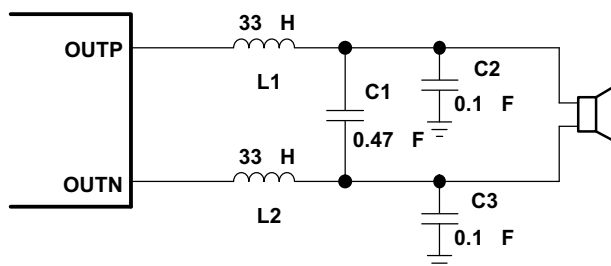
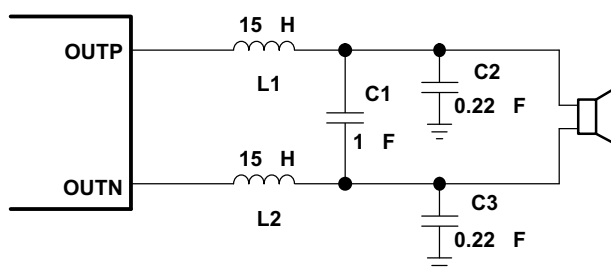
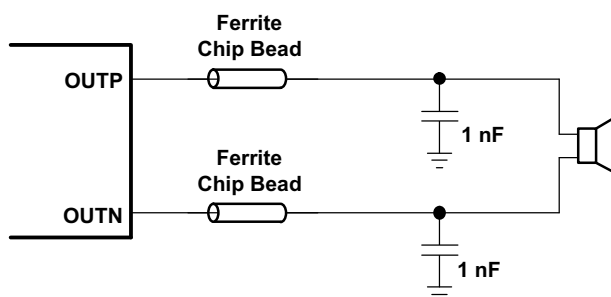
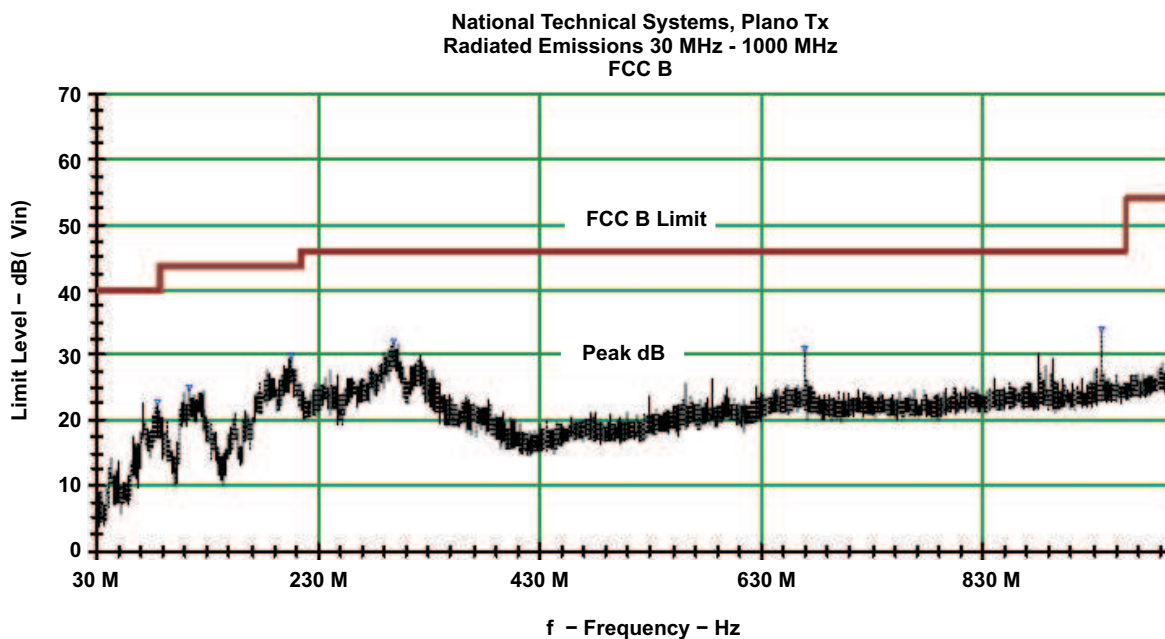

Figure 27. Typical LC Output Filter, Cutoff Frequency of 27 kHz, Speaker Impedance = 8 Ω
Figure 28. Typical LC Output Filter, Cutoff Frequency of 27 kHz, Speaker Impedance = 4 Ω
Figure 29. Typical Ferrite Chip Bead Filter (Chip Bead Example: Fair-Rite 2512067007Y3)
Figure 30. Radiated Emissions Prescan 30 MHz - 1000 MHz
Using the LC filter in Figure 27, the TPA3100D2 EMI EVM passed the FCC Part 15 Class B radiated emissions with 21 inch speaker wires. Quasi-peak measurements were taken for 4 configurations, and the TPA3100D2 EMI EVM passed with at least a 5.6-dB margin. A plot of the peak measurement for the horizontal rear configuration is shown in Figure 30.
- **Output filter**—The ferrite EMI filter (Figure 29) should be placed as close to the output terminals as possible for the best EMI performance. The LC filter (Figure 27 and Figure 28) should be placed close to the outputs. The capacitors used in both the ferrite and LC filters should be grounded to power ground. If both filters are used, the LC filter should be placed first, following the outputs.